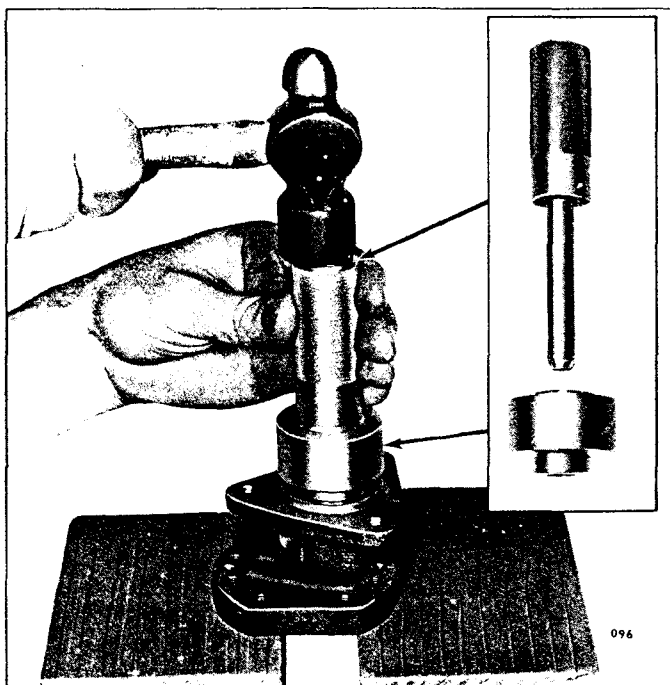

Fig. 8 – Installing Outer Oil Seal Using Tools J 1508-8 and J 1508-9
- c. Place the shorter end of the adaptor J 1508-9 over the pilot and against the shoulder of the installer handle. Place the outer oil seal on the pilot of the installer handle with the lip of the seal facing the adaptor. Then insert the pilot of the installer handle into the pump body and drive the seal in (Fig. 8) until the shoulder of the adaptor contacts the pump body. Thus the oil seals will be positioned so that the space between them will correspond with the drain holes located in the bottom of the pump body.